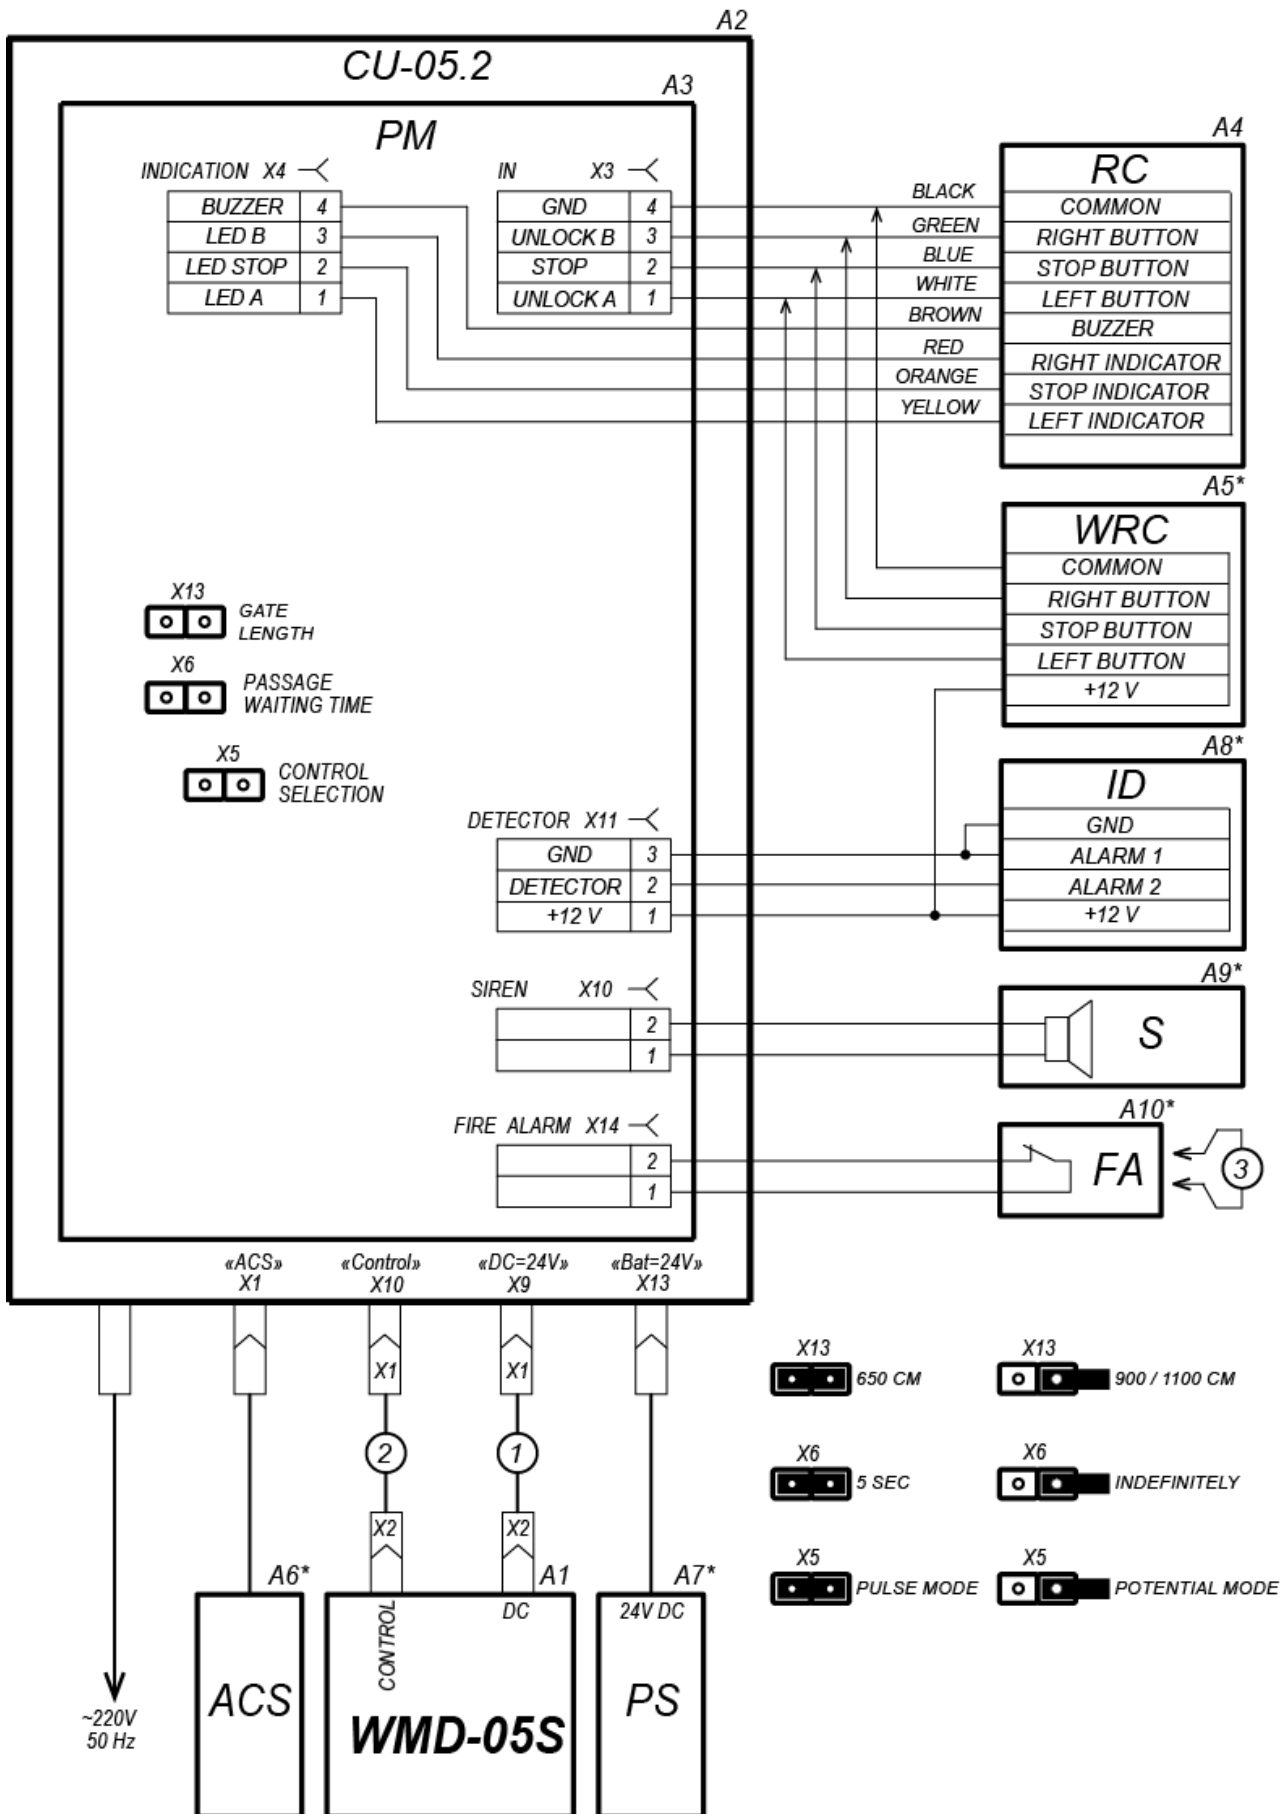

Figure 7 . Connection layout of the swing gate¹
- Pull the RC panel cable through the RC cable entry inside the CU and connect to the **X3** and **X4** terminal blocks of the processor module in accordance with Figure 5 and Figure 7.
12. Connect an emergency unlocking device. To do so, pull the cable through the **ALARM** cable inlet inside the CU, remove the jumper from the **X14** terminal block of the processor module and connect the cable in accordance with Figure 5 and Figure 7.